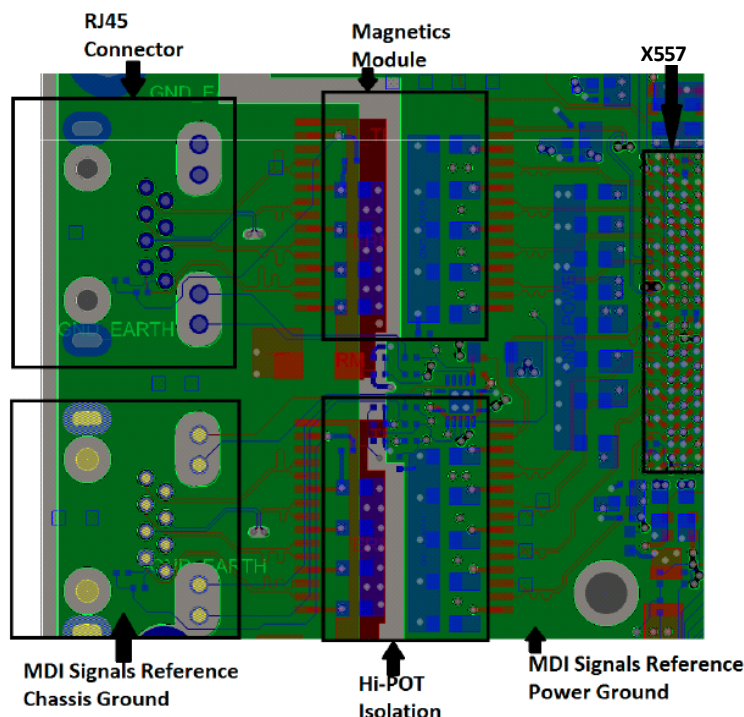

Figure 9-4 MDI Grounds
2. Bob Smith termination and the shield of the RJ-45 jack are both connected to chassis ground, which are the two large circular metalizations in the MDI (see Figure 9-4).